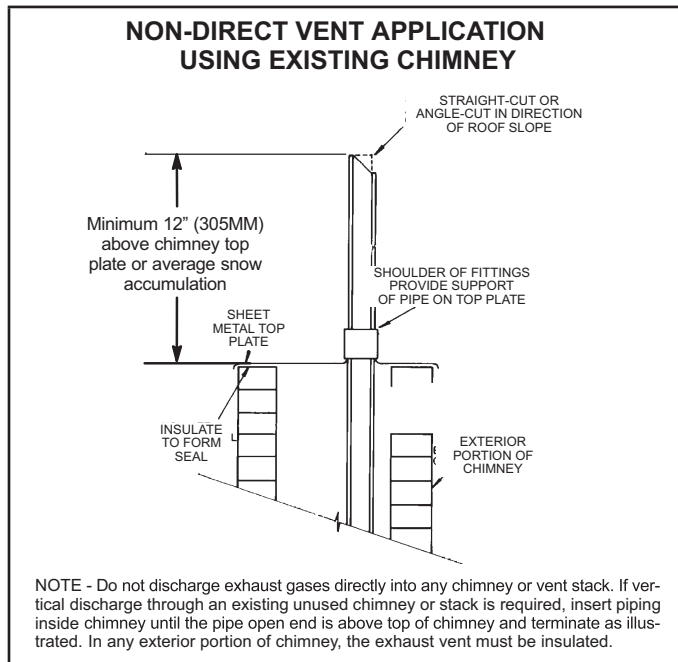

**FIGURE 45**
NOTE - Flue gas may be slightly acidic and may adversely affect some building materials. If any vent termination is used and the flue gasses may impinge on the building material, a corrosion-resistant shield (minimum 24 inches square) should be used to protect the wall surface. If the optional tee is used, the protective shield is recommended. The shield should be constructed using wood, plastic, sheet metal or other suitable material. All seams, joints, cracks, etc. in the affected area should be sealed using an appropriate sealant. See FIGURE 45.
- 5 - On field-supplied terminations for side wall exit, exhaust piping may extend a maximum of 12 inches (305mm) for 2" PVC and 20 inches (508mm) for 3" (76mm) PVC beyond the outside wall. Intake piping should be as short as possible. See FIGURE 45.
- 6 - On field supplied terminations, a minimum distance between the end of the exhaust pipe and the end of the intake pipe without a termination elbow is 8" and a minimum distance of 6" with a termination elbow. See FIGURE 45.
- 7 - If intake and exhaust piping must be run up a side wall to position above snow accumulation or other obstructions, piping must be supported. At least one bracket must be used within 6" from the top of the elbow and then every 24" (610mm) as shown in FIGURE 45, to prevent any movement in any direction. When exhaust and intake piping must be run up an outsidewall, the exhaust piping must be terminated with pipe sized per TABLE 10. The intake piping may be equipped with a 90° elbow turndown. Using turndown will add 5 feet (1.5m) to the equivalent length of the pipe.